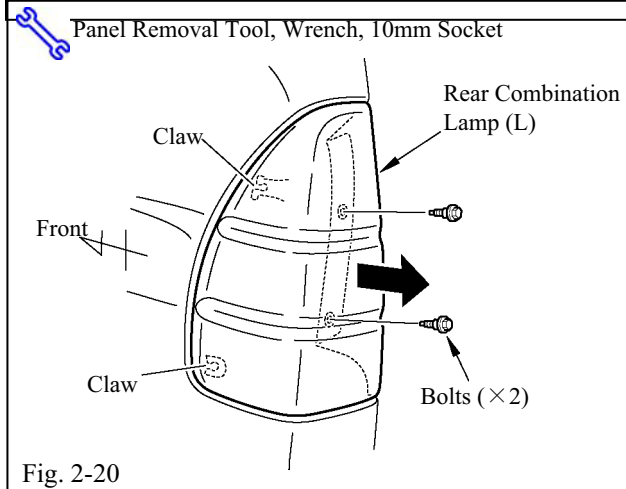

Fig. 2-20
(3) Remove the rope hook, then remove the screw.
(4) Remove the floor screw.
(5) Pull back the front weather strip.
(6) Pull the trim in the direction of the arrow, and remove the clip and claw.
(s) Remove the rear combination lamp (L) (Fig. 2-20).